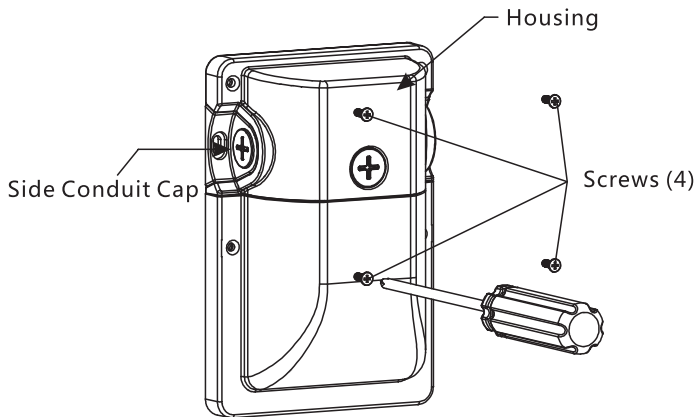

Fig. 1
1. Loosen Housing side Screws (4) as shown in Fig. 1